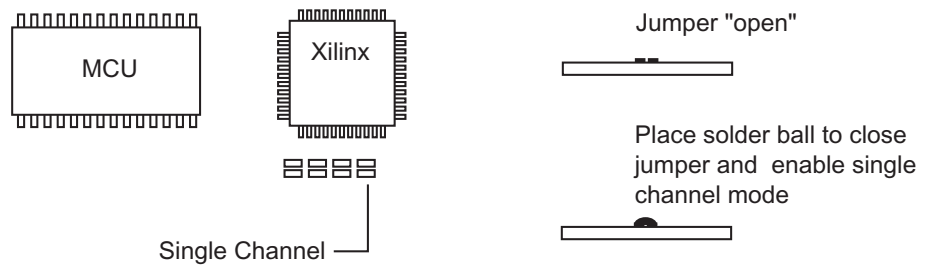
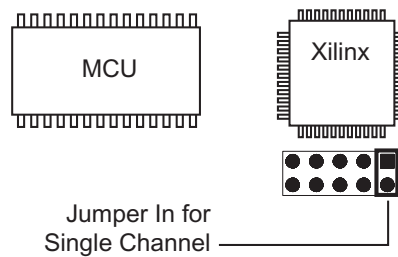

FIGURE 13. Solder Jumper setting for Single Channel Operation
FIGURE 14. Jumper setting for Single Channel Operation - RevB Hardware
- Depending on the board's revision, place a drop of solder on the PCB jumper pad shown in Figure 13 or insert a jumper as shown in Figure 14.